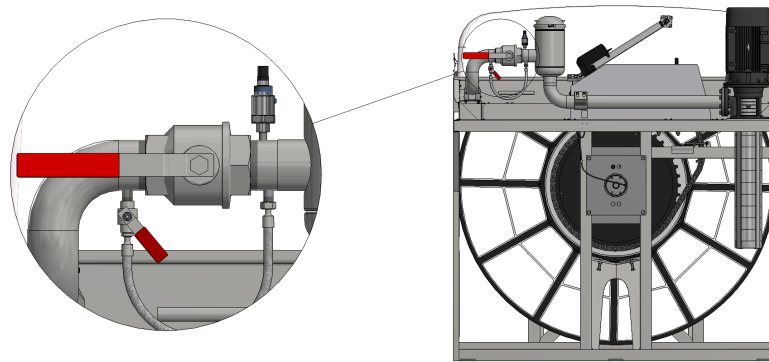

Figure 7.1 Main valve and bypass valve for checking the nozzles.
3. Open the bypass valve (see Figure 7.1).